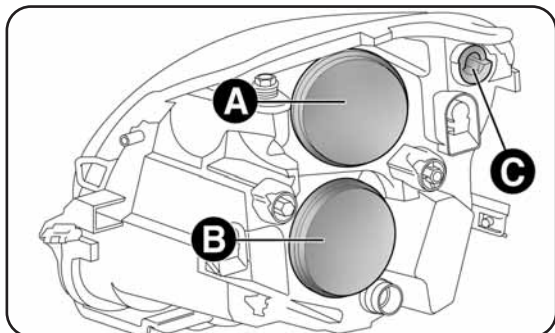

fig. 22
FRONT LIGHT CLUSTERS fig. 22
- remove cover A-fig. 22;
- refit cover A-fig. 22;
- refit cover A-fig. 22.
- remove cover B-fig. 22;
- refit cover B-fig. 22.